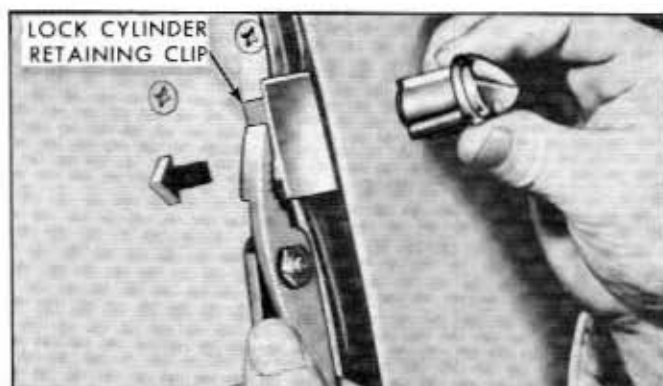

Fig. 13B-5—Door Lock Cylinder Removal—(60C-8031)
1. Carefully pull aside the front door weatherstrip, remove the lock cylinder retaining clip and withdraw the cylinder. See figure 13B-5.